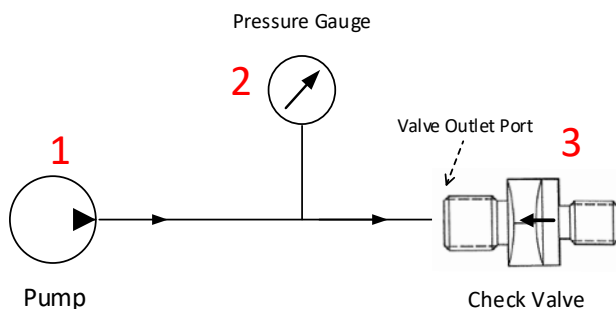

Figure 14: test setup Test Title 4 - 3(1)
(1) Internal Leakage:
- Test set up in accordance to Figure 14.